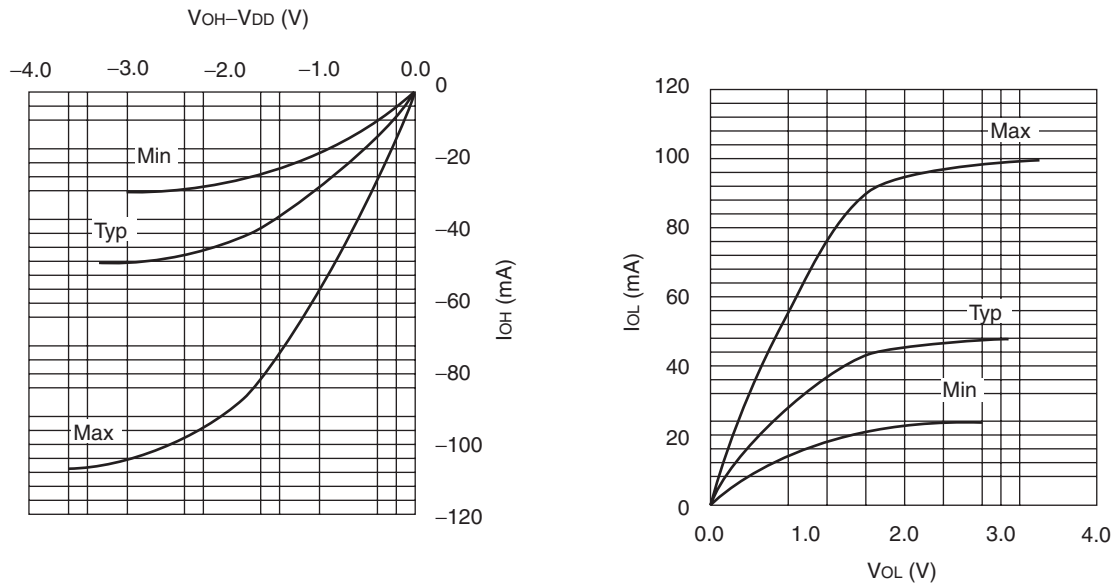

Fig.1 V-I characteristics (3.3 V normal I/O L, M type)
*2 : Refer to the Fig.1 to 2.
Conditions (Fig 1, 2) Min : Process = Slow, $T_j = +125\text{ }^\circ\text{C}$, $V_{DD} = 3.6\text{ V}$